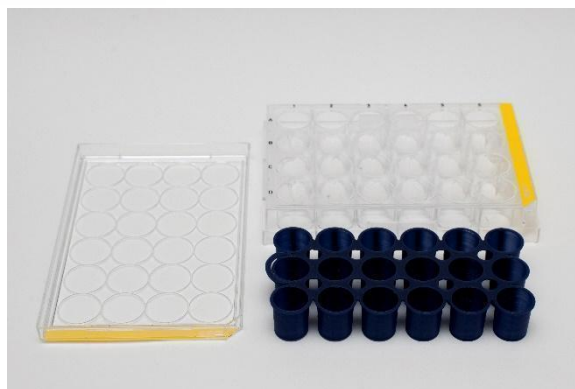

Figure 9. Unpacking Gelacell™ well plate and removing the blue tops.
1. Adhering to aseptic techniques, place the Gelacell™ package under a laminar flow hood, take the well plate out of the package and remove the blue tops (Figure 9).